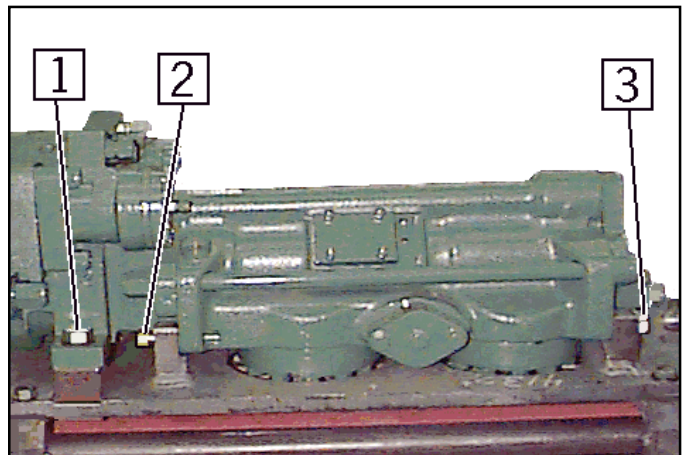

Fig. 6-20 HPR3818 (HPR1H-ATW) Drill Mounting Bolts
4. Attach two lifting straps to drill and using a 1/2 ton hoist, put a slight amount of tension on the drill. Remove the drill mounting bolts (fig. 6-20) and lift the drill free of the mounting slide.
2. Install the four mounting bolts and two swivel bolts, hand tight only (fig. 6-20). Keep some tension on the drill with the lifting straps until mounting bolts are tightened.